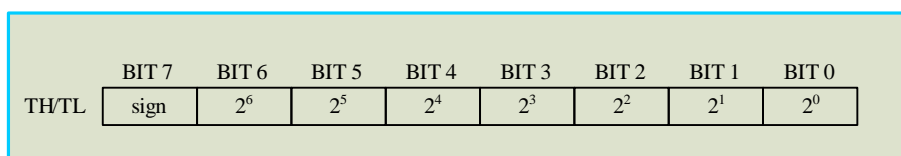

Figure 3. TH and TL register formats
GX20MH01 After a temperature conversion, the temperature value is compared with a user-defined alarm threshold stored in the TH and TL registers (as shown in Figure 3). Mark bit (S) indicates the positive and negative temperature value: positive number S=0, negative number S=1. The TH and TL registers are non-volatile (EEPROM), so the data remains after power loss. In the memory section it explains how the TH and TL are deposited in the 2nd and 3rd bytes of the register.